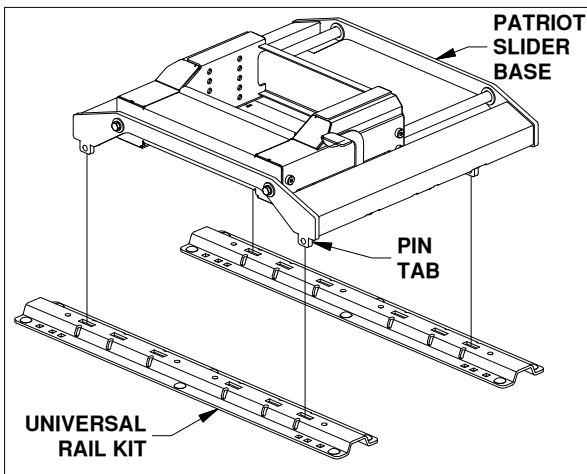

Figure B1: Rail attachment.
1. The Patriot Slider base will mount to a rail kit in the truck bed. Remove any debris and/or obstructions from the bed. Place the Patriot Slider base over the rail attachment points and carefully lower it until the pin tabs pass through the attachment points and the base rests flat against the top of the rails, see Figure B1.